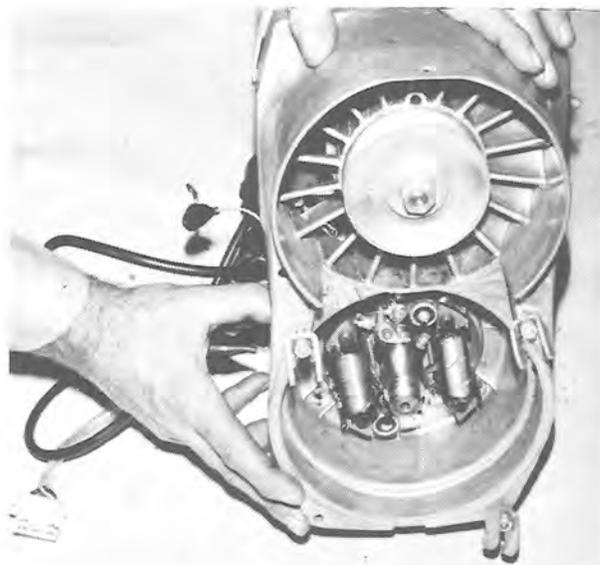

FIG. 1-16
Remove screw holding spark plug wire bracket to fan housing. With a socket type 5 mm Allen wrench and impact driver, remove the four (4) mounting bolts holding fan housing to crankcase. (See Fig. 1-15). Remove fan housing from crankcase (See Fig. 1-16).